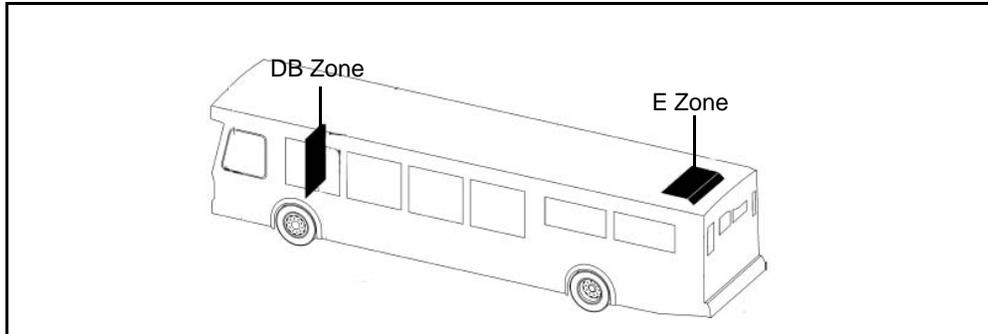

Figure 1-5 Orion VII Converter Access Panels
3. Access the interior bus panels to locate applicable converter. See **Figure 1-5**.